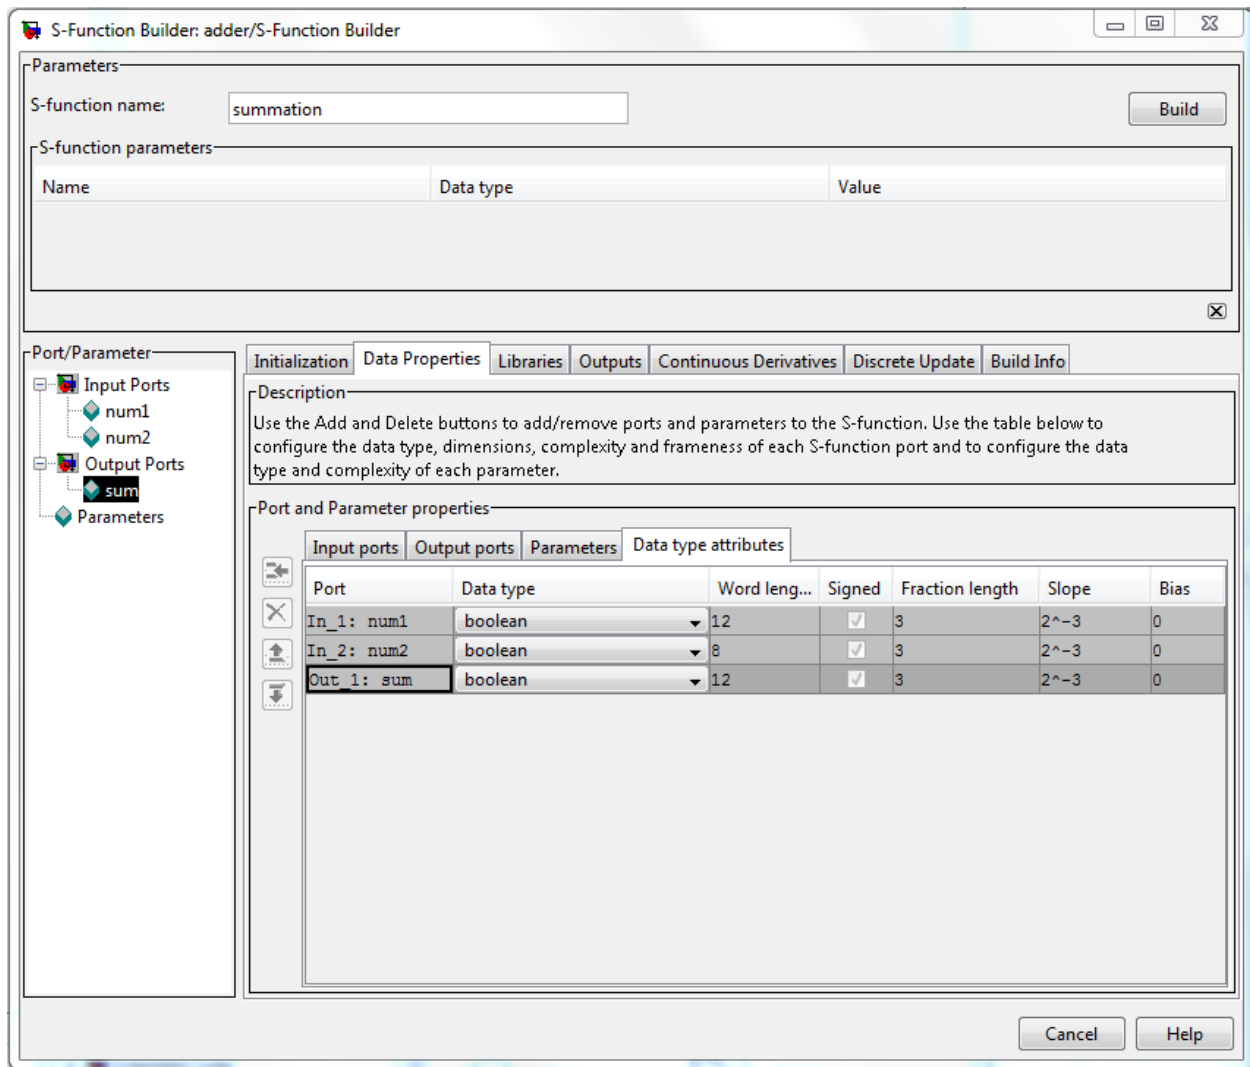

Figure 4
7. Click on the “Data type attributes” tab and select a data type of “boolean” for inputs and outputs. See figure 4 for reference.